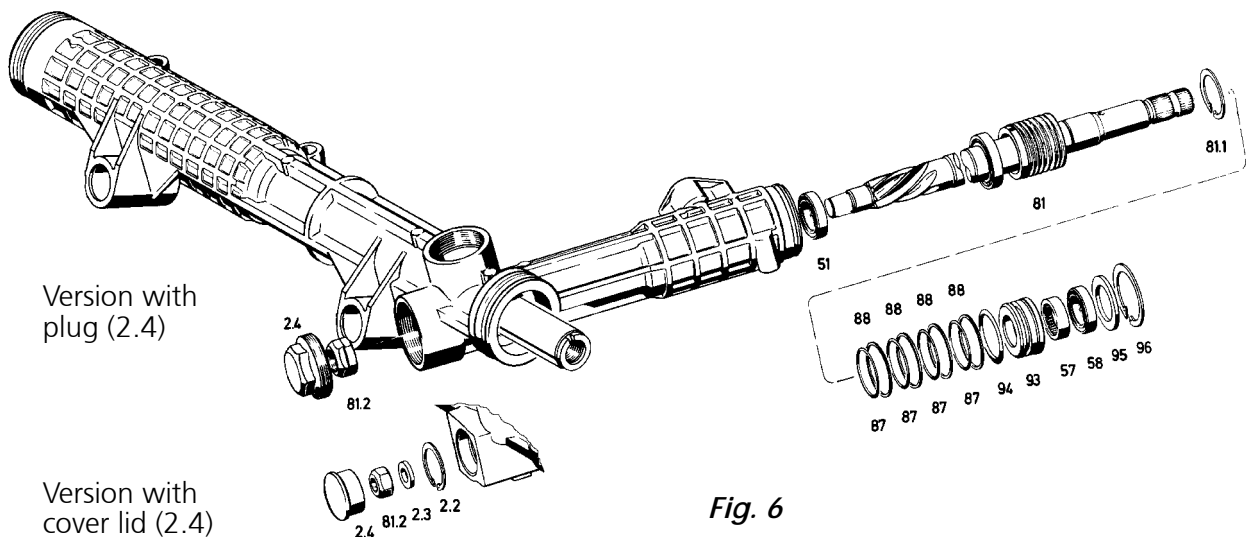

Fig. 6
Screw out the plug (2.4)/remove the cover lid (2.4) by pushing it off to the side (*Fig. 6*).
4.4.3 Slip off the washer (95) and the bush (93).
Remove the O-ring (94) (*Fig. 6*).